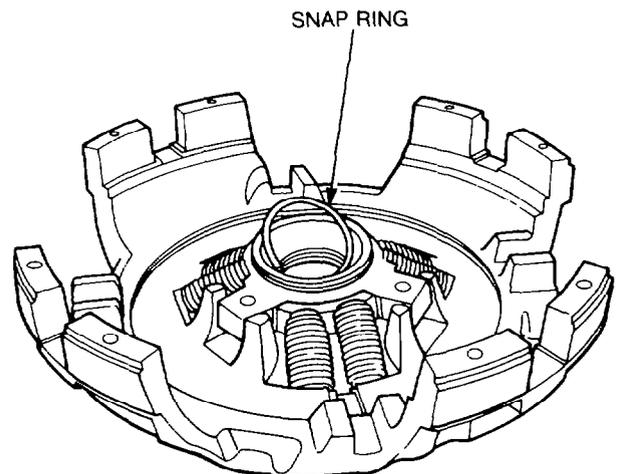

Figure 157 — Removing Snap-ring
- f. Remove the snap-ring from the release sleeve retainer (see Fig. 157), then position the clutch housing assembly, together with the support tube in an arbor press.